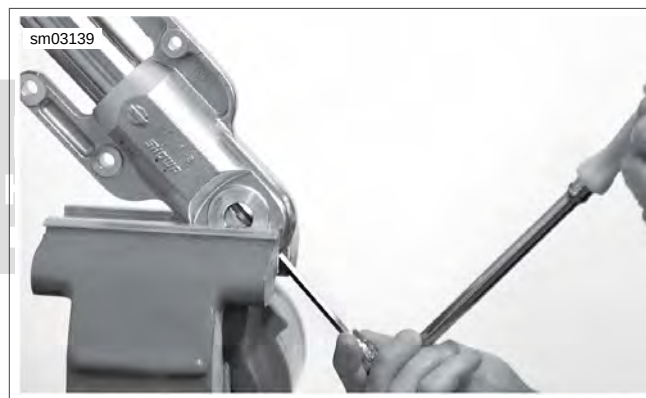

Figure 2-102. Install Fastener and Copper Washer
- See Figure 2-102. Using a vise with soft jaws, clamp fork slider in vise. Install **new** fastener and copper washer to hold fork cartridge in install inside fork tube. Tighten to 15-25 Nm (132-221 in-lbs).